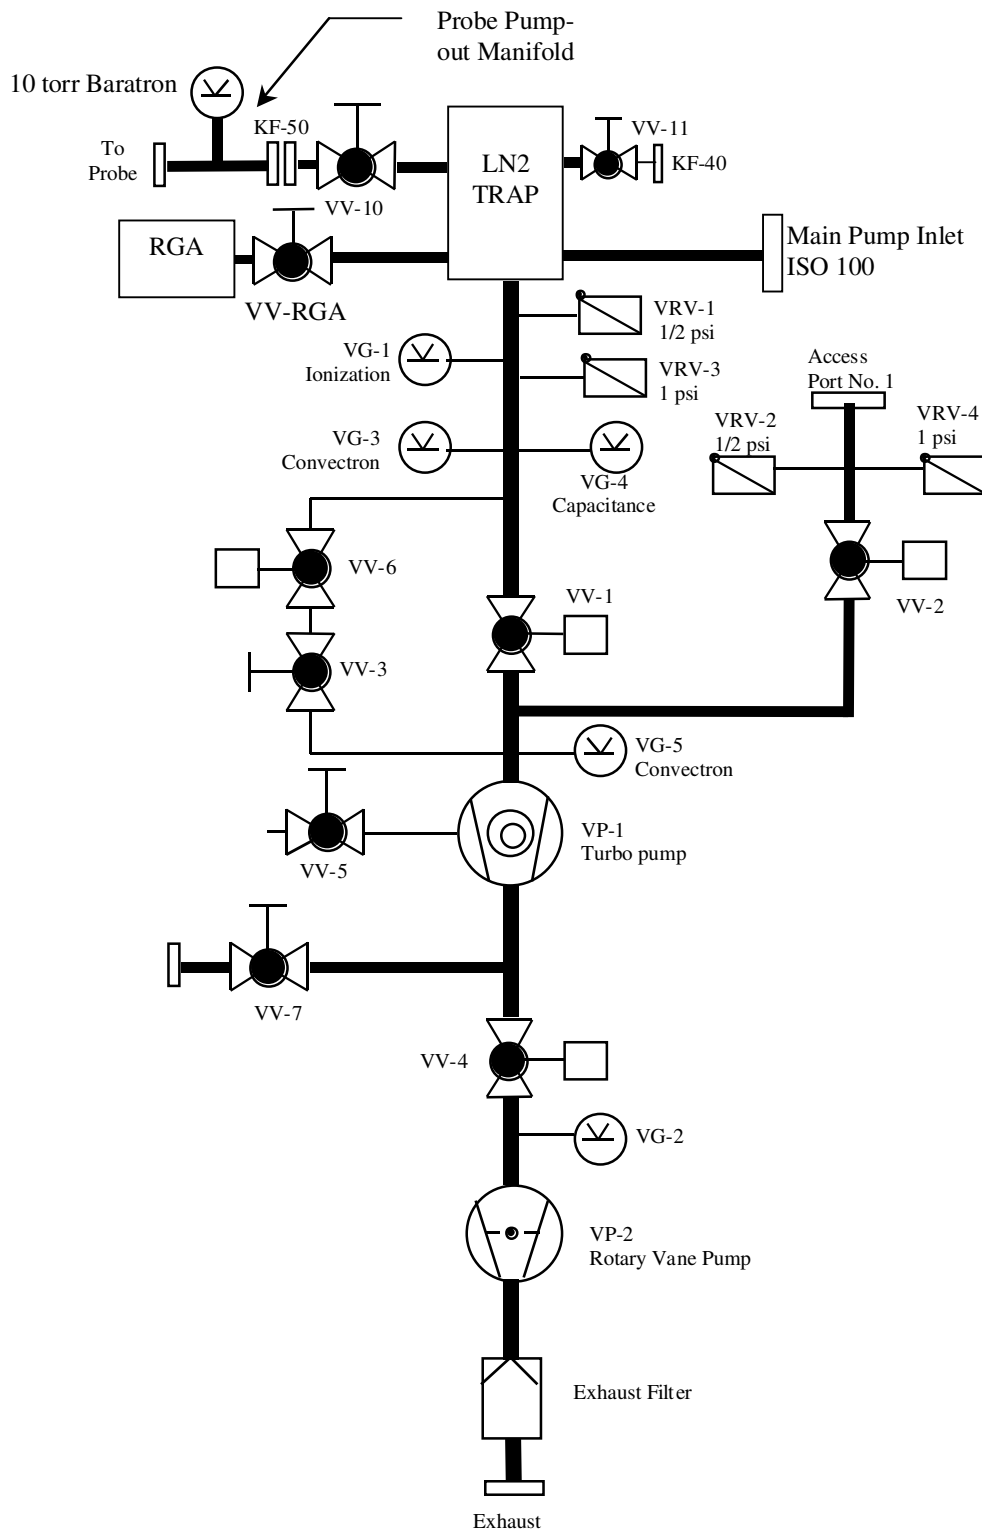

Figure 2. Schematic diagram of Vacuum Module
- G.7.7. Connect Probe Pump-out Manifold (see figure 2) to VV-10 of Vacuum Module using EVAC Al seals